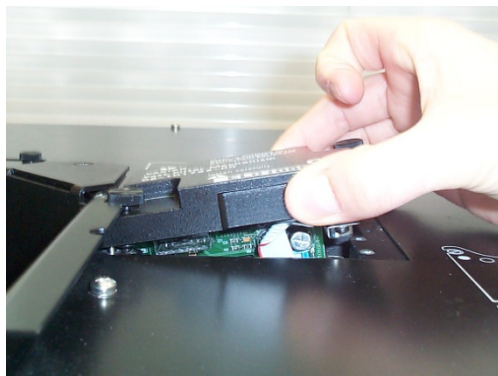

Figure 6. The edge nearest the male D-plug is raised at a 30° angle with the opposite edge touching the excitation chamber.
- 4 Carefully lower the accessory into the excitation chamber, raising the edge nearest the male D-plug on a 30° angle so that the opposite edge of the accessory touches the excitation chamber first (Figure 6). Once the edge is positioned, lower the male D-plug so that it is sitting on top of the female D-plug in the excitation chamber.